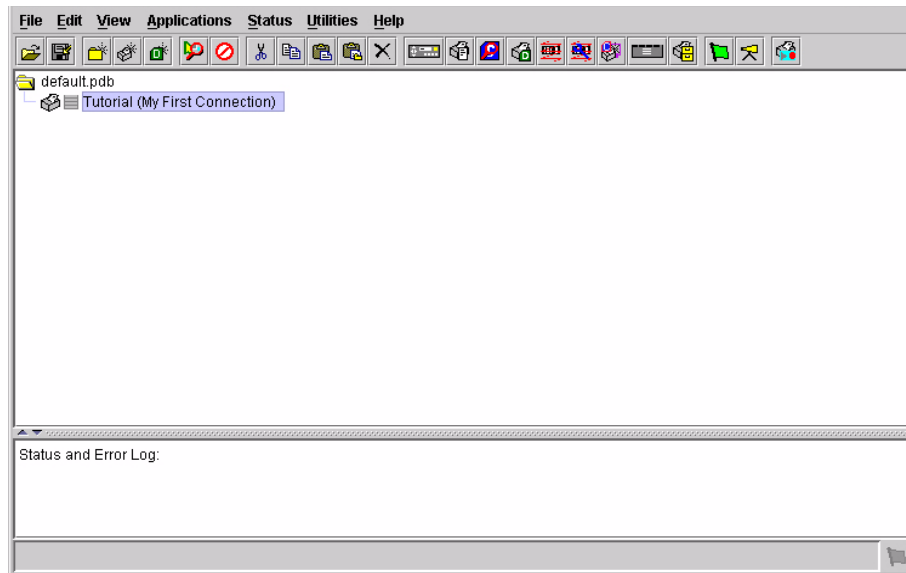

Figure 6. Printer Database Main Window
- a. **Tutorial (My First Connection)** should be highlighted in blue, as shown in Figure 6. If it is not highlighted, click it to select it.